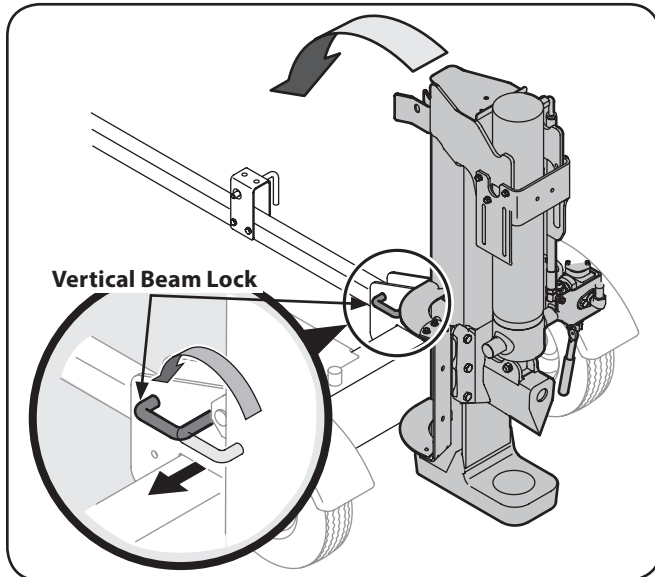

Figure 3-3
- Pull out the vertical beam lock, rotate it back, and pivot the beam to the horizontal position until it locks. Be sure to avoid any possible pinch points. See Figure 3-3